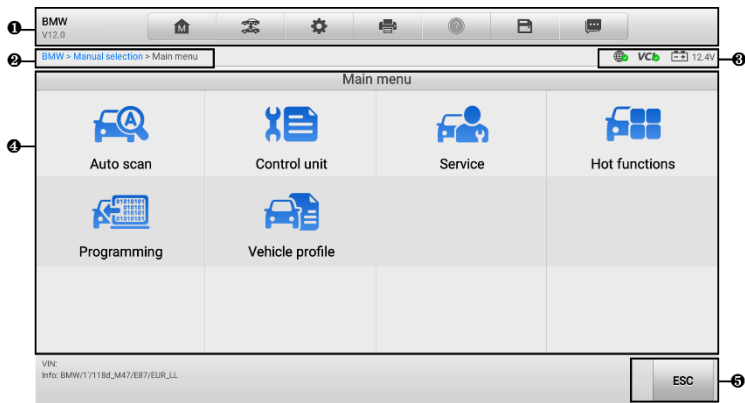

Figure 4-5 Main Menu Screen
The Main Menu screen (see Figure 4-5 Main Menu Screen) navigates users to perform read codes, clear codes, or perform comprehensive automotive diagnostics functions, and so on. After the function is selected, the tablet will establish a communication with the vehicle through the VCI device, and enter the corresponding function menu or selection menu based on your selection.
1. Tap the **Diagnostics** application button on the MaxiSys Job Menu. Choose the corresponding vehicle information and enter the Main Menu screen. (See Figure 4-5 Main Menu Screen.)